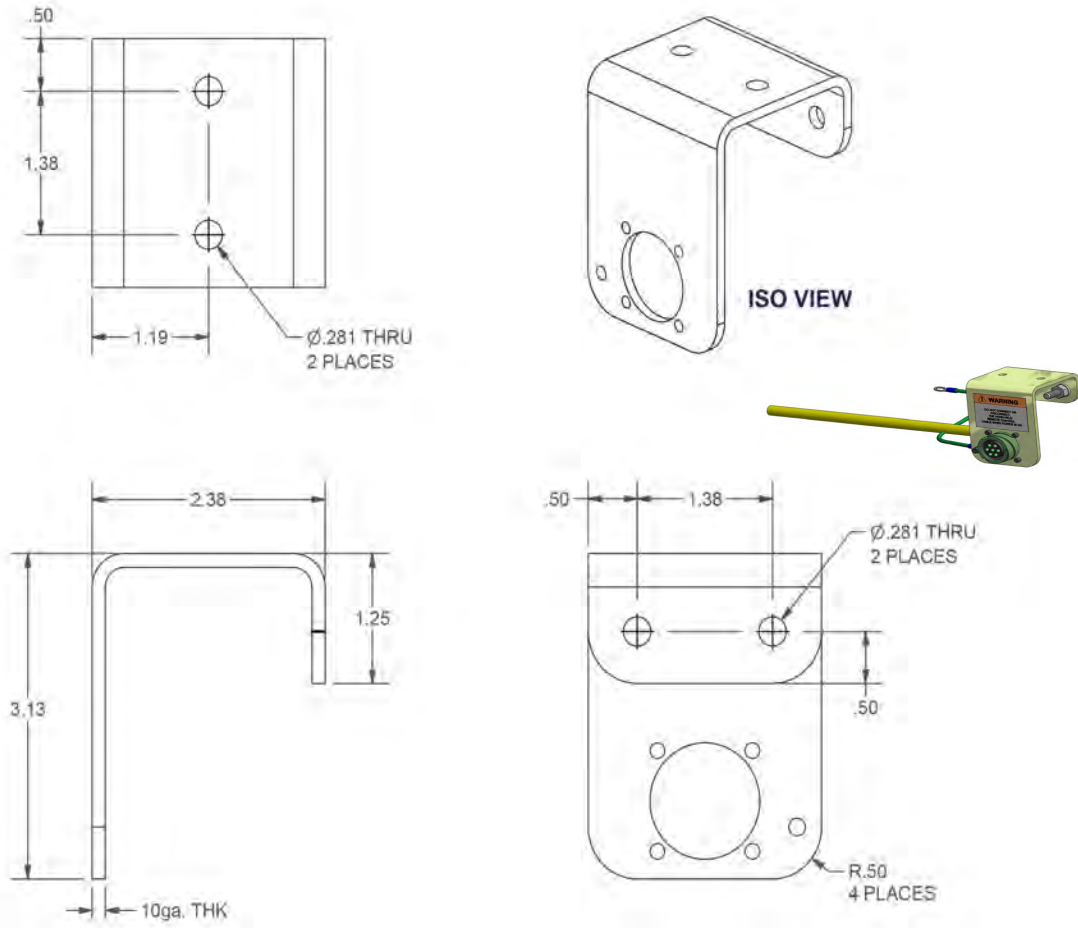

Figure 5-5 HHRC Bulkhead Bracket Installation Dimensions
1. Drill clearance holes for 1/4-20 screws located per Figure 5-5. Either two hole pattern can be selected according to the space available.